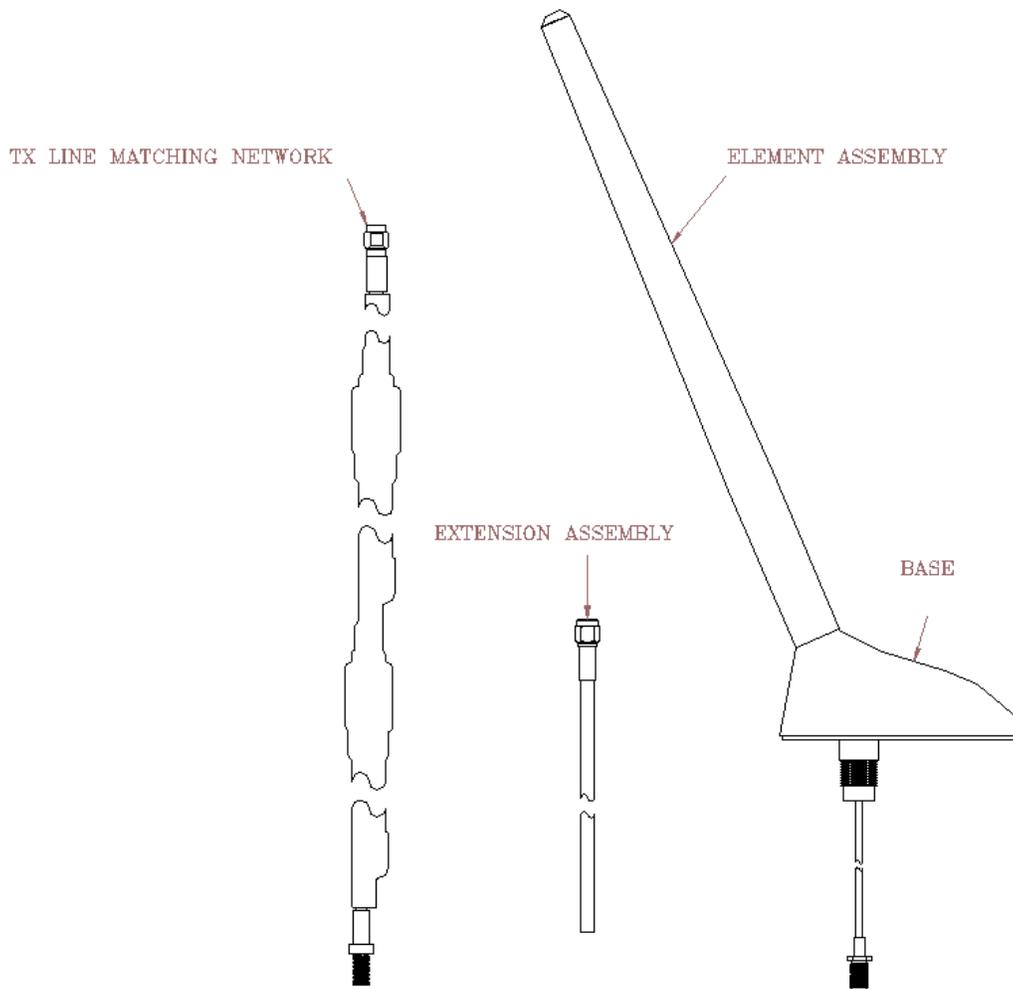

Figure 1: Antenna System Parts
- A. System Parts:** The system package includes (1) antenna base with pigtail, (1) element assembly, (1) matched coupler, (1) transmission line matching network, (2) 17 foot cable extension, and RF connectors (if applicable). Use only components supplied with the antenna system (Refer to Figure 1.).